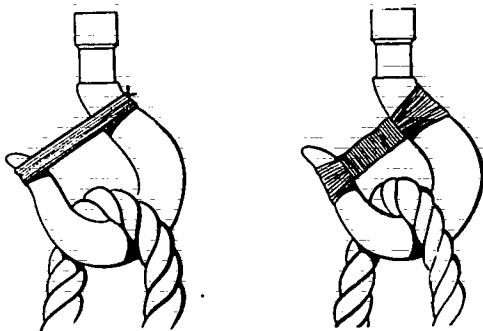

Figure 7-80. Mousing Hooks
2. **Mousing Hooks** No open hook shall be used in any situation where accidental dislodgement of the load could cause a risk of injury to workers. In these circumstances a safety hook or a shackle must be used, or if permitted by government regulations, mousing as shown in Figure 7-80 could be applied.